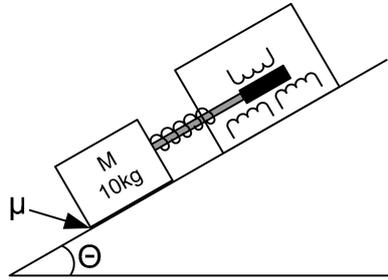
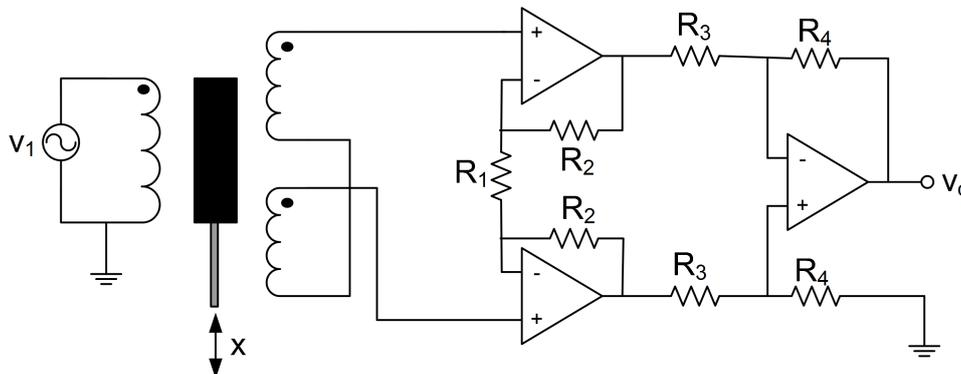

Figure 1: Measuring inclination using an LVDT.
Figure 2: Amplification of the LVDT output signal.
- (d) A certain application requires that the output voltage of the LVDT sensor is amplified. For this purpose, the sensor from Figure 1 is connected to an instrumentation amplifier. The electrical equivalent circuit is shown in Figure 2.
- (f) The output of the instrumentation amplifier from Figure 2 is connected to a single-sided rectifier with low-pass filter as shown in Figure 3. Draw the output voltage ( $v_o(t)$ ) of the circuit when the arm is kept still at an angle of  $45^\circ$ .
- (h) Instead of the instrumentation amplifier from Figure 2 and the single-sided rectifier, you may connect the LVDT sensor from Figure 1 directly to a double-sided rectifier. In addition, the middle connector of the secondary windings is connected to ground. The electrical schematic of the sensor and its signal conditioning circuit is shown in Figure 4. Draw the output voltage ( $v_o(t) = v_2(t) - v_1(t)$ ) of the circuit when the arm is kept still at an angle of  $45^\circ$ .